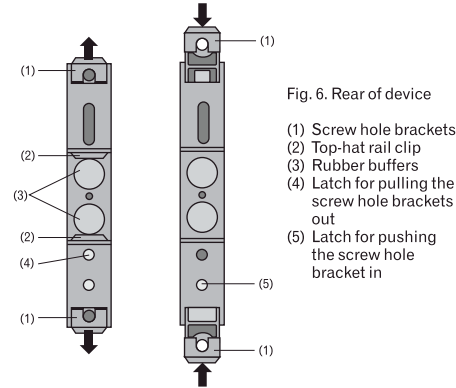

Fig. 6. Rear of device
(Fig. 6, left) pull out the isolating amplifier securing
securing brackets (1) (see Fig. 6, right)